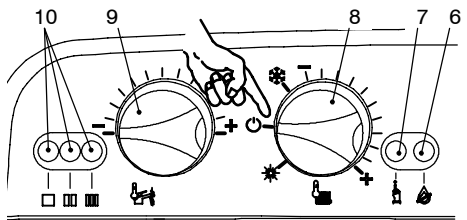

Fig. 8.2
- 8 Turn the boiler OFF positioning the function selector 8 as indicated in Fig. 8.2.